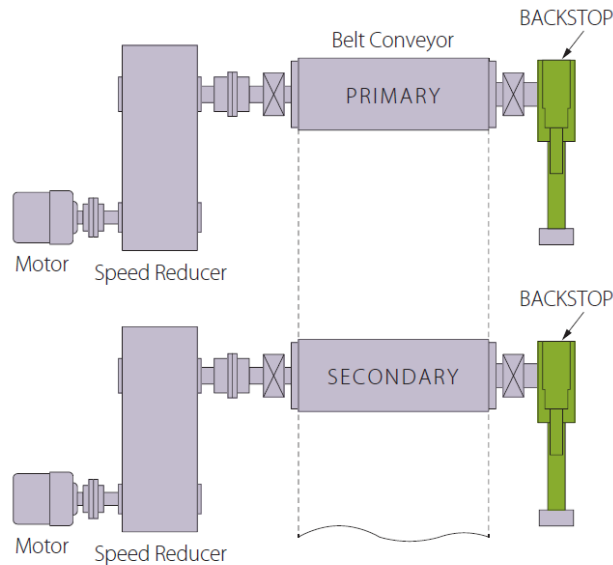

Figure 3
- In this type of Application, There will be two drives Primary & Secondary as shown in fig.3